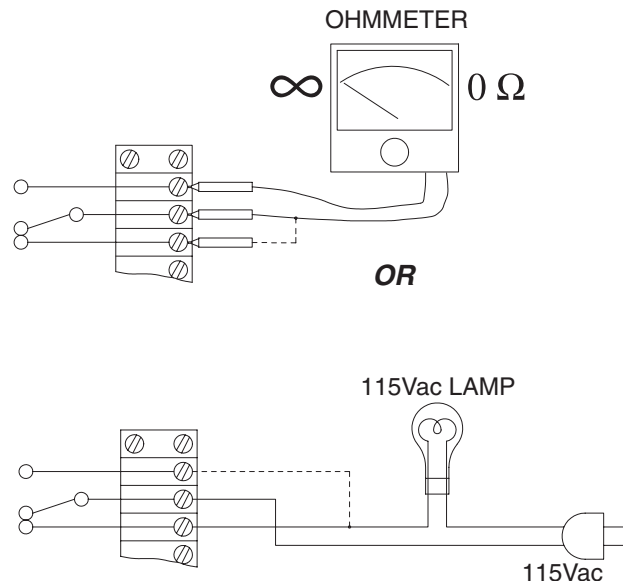

Figure 5-3
2. Relay operation may generally be heard as an audible click when the background noise is not too high. Use one of the methods shown in **Figure 5-3** to determine if the relay contacts are switching.